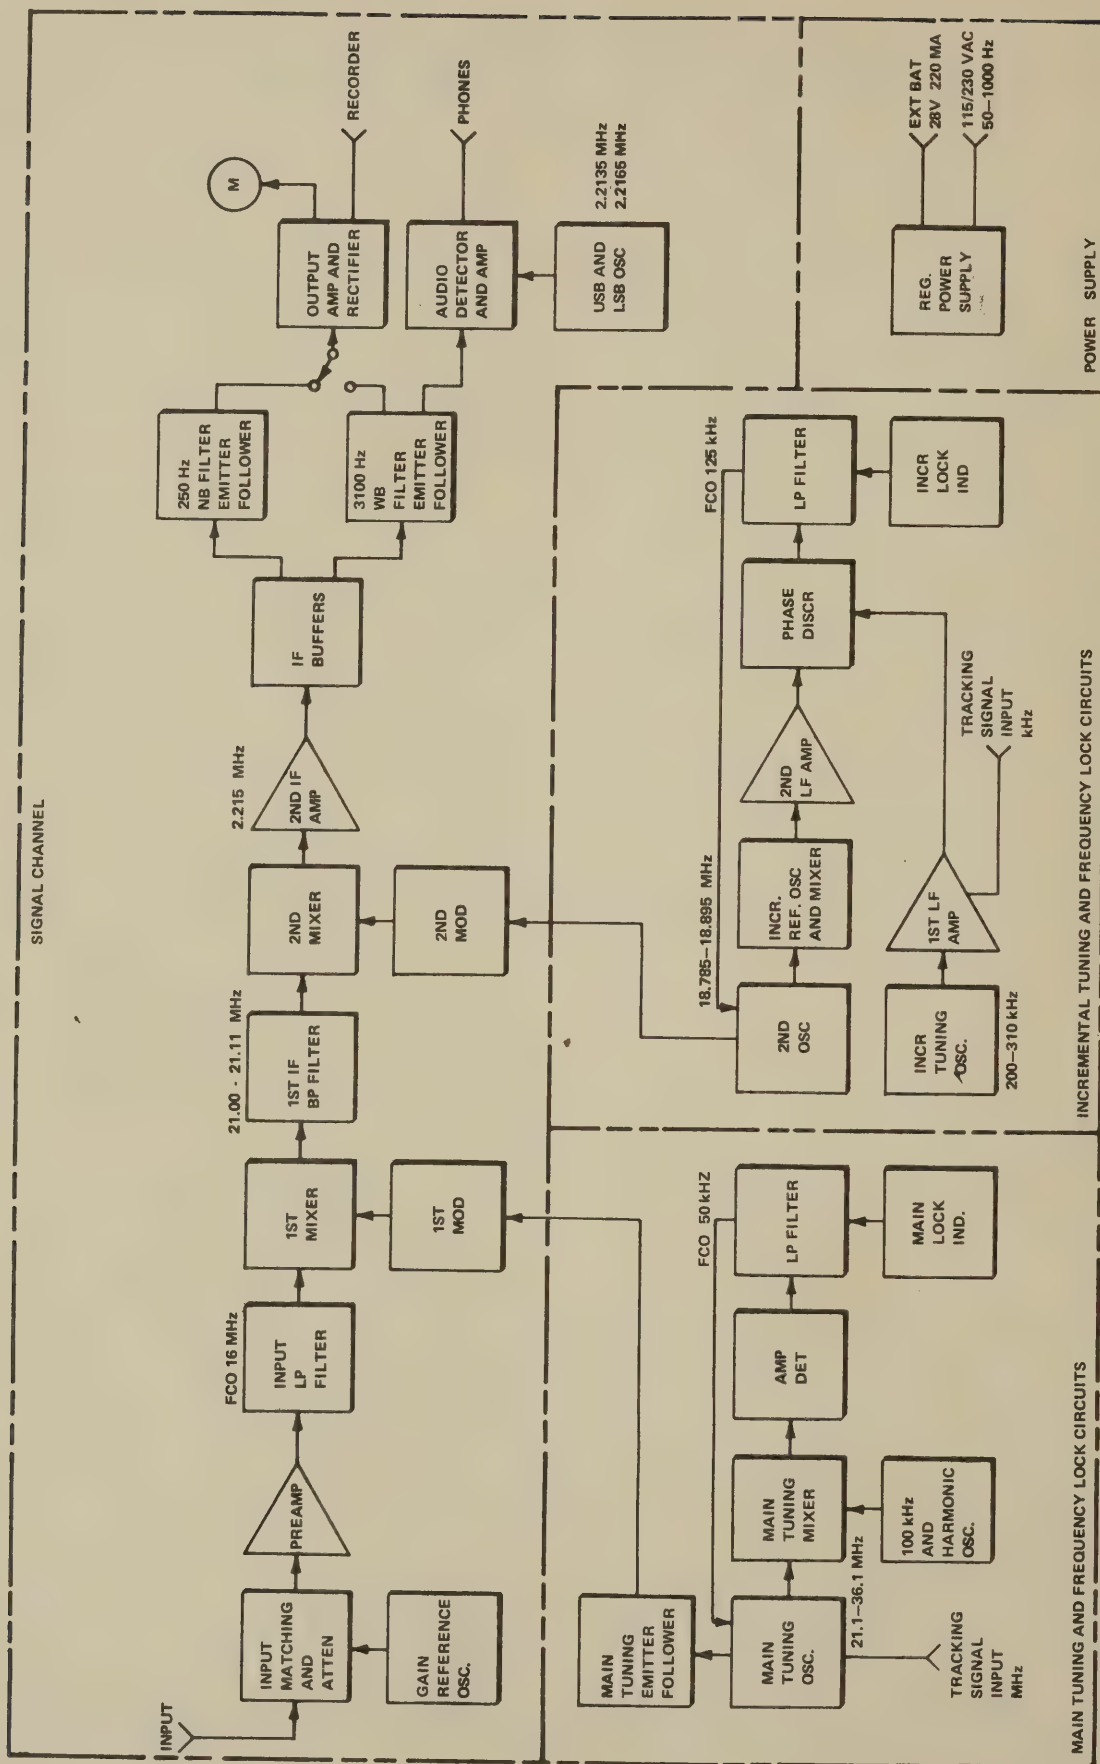

Figure 3-1. Sierra 128A Functional Block Diagram
**3.02** The 128A circuitry is divided into three principal sections: the signal channel, the main tuning and frequency lock circuits, and the incremental tuning and frequency lock circuits. Front panel controls are divided into similar groupings. Refer to the Functional Block Diagram, Figure 3-1 for relationships of the various circuits.
**3.13** To provide for synchronous tuning of the 128A by means of a Tracking Signal Generator (Sierra 351A), input BNC connectors are mounted on the dial panels of both the main tuning oscillator and the incremental tuning oscillator. When connected, the Tracking Signal Generator takes the place of the main tuning oscillator and the incremental tuning oscillator. Control dc voltage from the Tracking Signal Generator actuates a relay within the 128A disabling the internal oscillator circuits and switching the tuning frequency control to the external generator. Tuning frequencies are fed to the stages shown in the Functional Block Diagram, Figure 3-1.